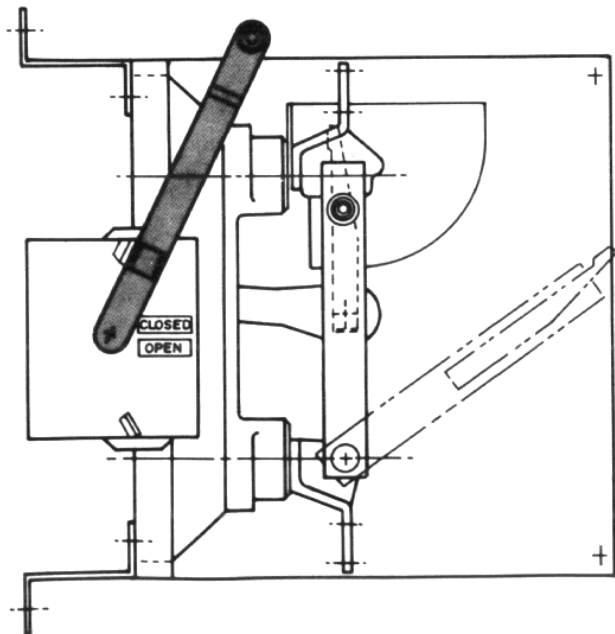

Fig. 5 Handle "UP" in switch closed position.
The component parts for this type of arrangement are shown in Fig. 5. The switch and frame are mounted vertically in the enclosure. The arc chute interrupter is situated above the blade hinge. The switch has a direct drive operator and the handle is mounted on the left side of the enclosure. The handle is in the "UP" position with the switch closed for this arrangement.
- a. Mount the frame-mounted switch (Fig. 5) in the enclosure. Check to be sure the 2-1/4" dimension from frame-mounting holes to outside of enclosure (per Dwg. 424-014) has been maintained.
- Move handle to the "UP" or closed position as shown in Fig. 5 and engage hub and key of handle with the shaft extension and keyway of the stored-energy device.